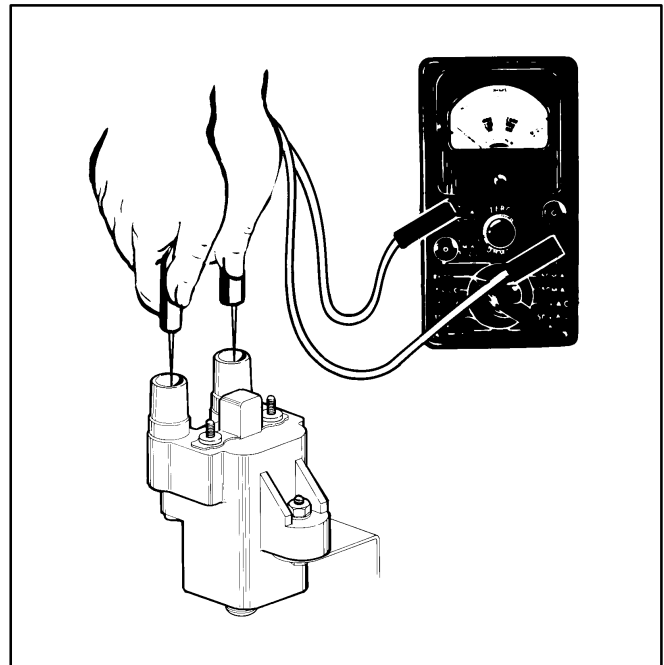

FIGURE 12. TESTING THE IGNITION COIL
6. Measure secondary coil resistance (across the spark plug cable terminals). Replace the ignition coil if secondary resistance is not between 10,000 and 40,000 ohms. See Figure 12.